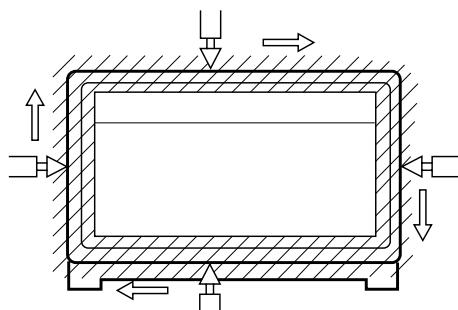

Figure 7
- (1) Pour 275 ± 15 cc of 20 ± 5 °C water in a beaker which is graduated to 600 cc, and place the beaker in the center of the oven.
- (2) Set the energy leakage monitor to 2,450 MHz and use it following the manufacturer's recommended test procedure to assure correct result.
- (3) When measuring the leakage, always use the 2 inch (5 cm) spacer supplied with the probe.
- (4) Operate the oven at its maximum output.
- (5) Measure the microwave radiation using an electromagnetic radiation monitor by holding the probe perpendicular to the surface being measured. (See Figure 7)